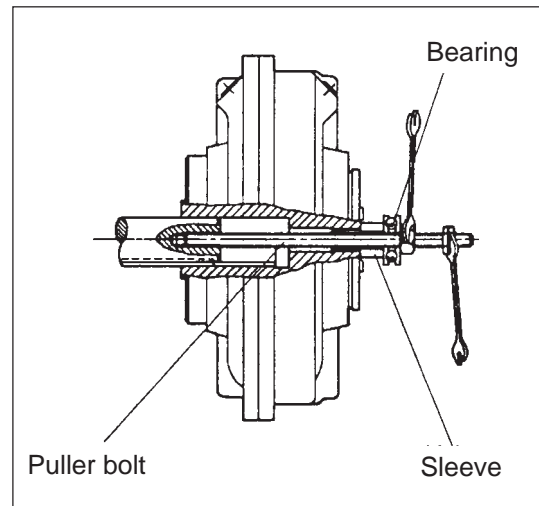

Figure 14. Installation of clutch
1. Place the hydrostatic clutch on the motor shaft and screw a long assembly bolt (with sleeve, bearing and nut) into the motor shaft, see figure 14.